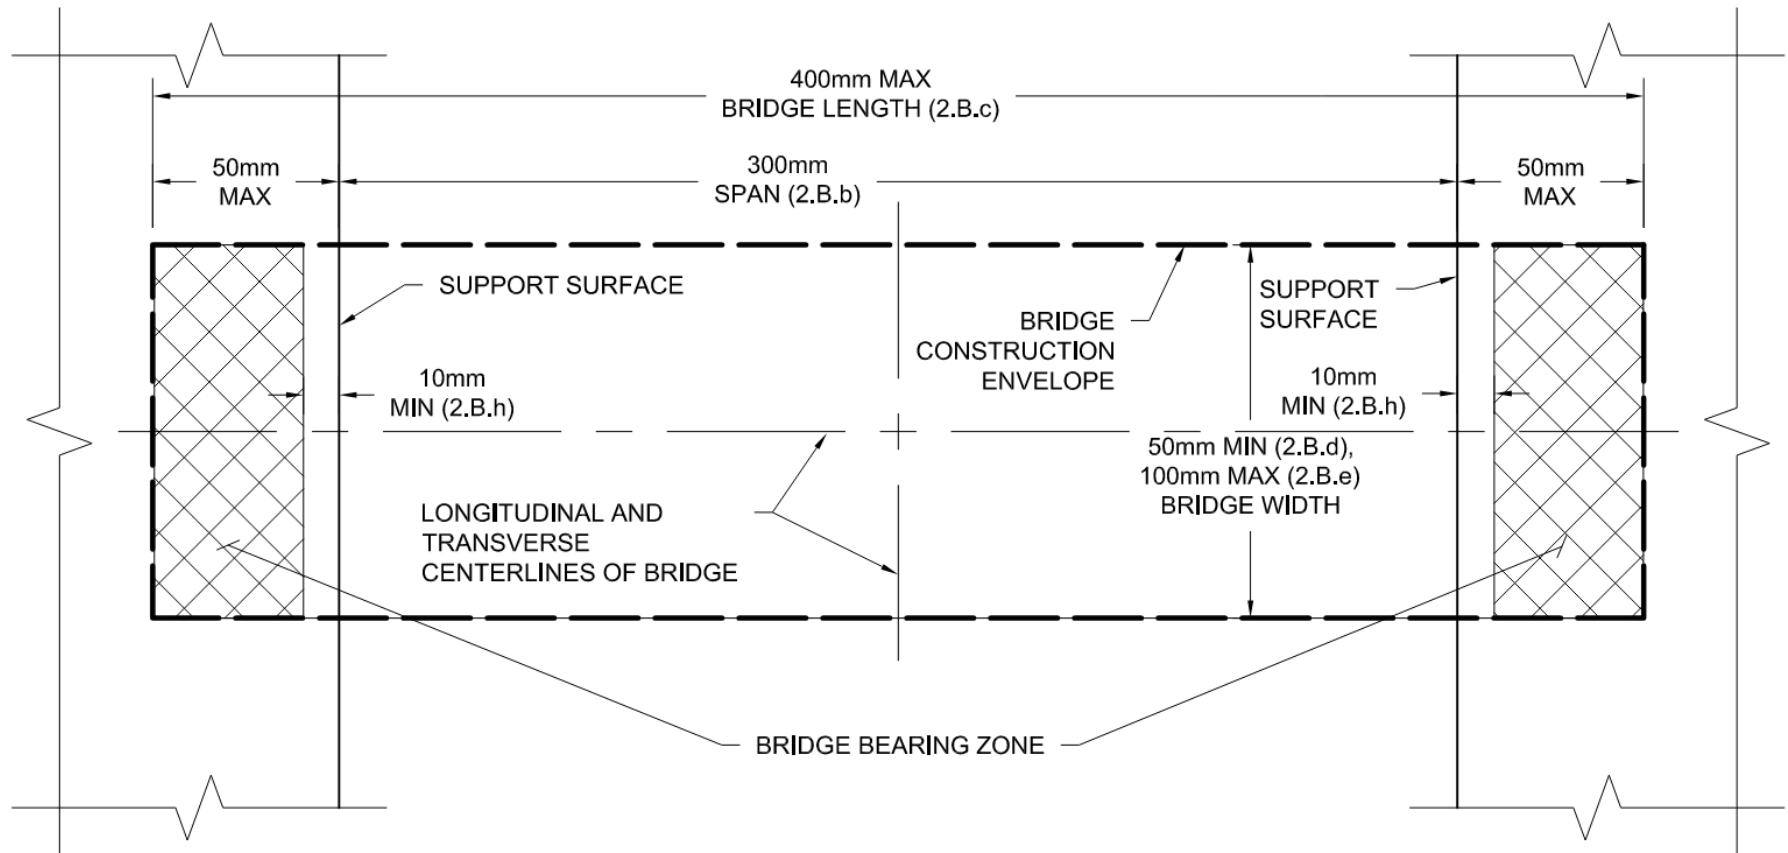
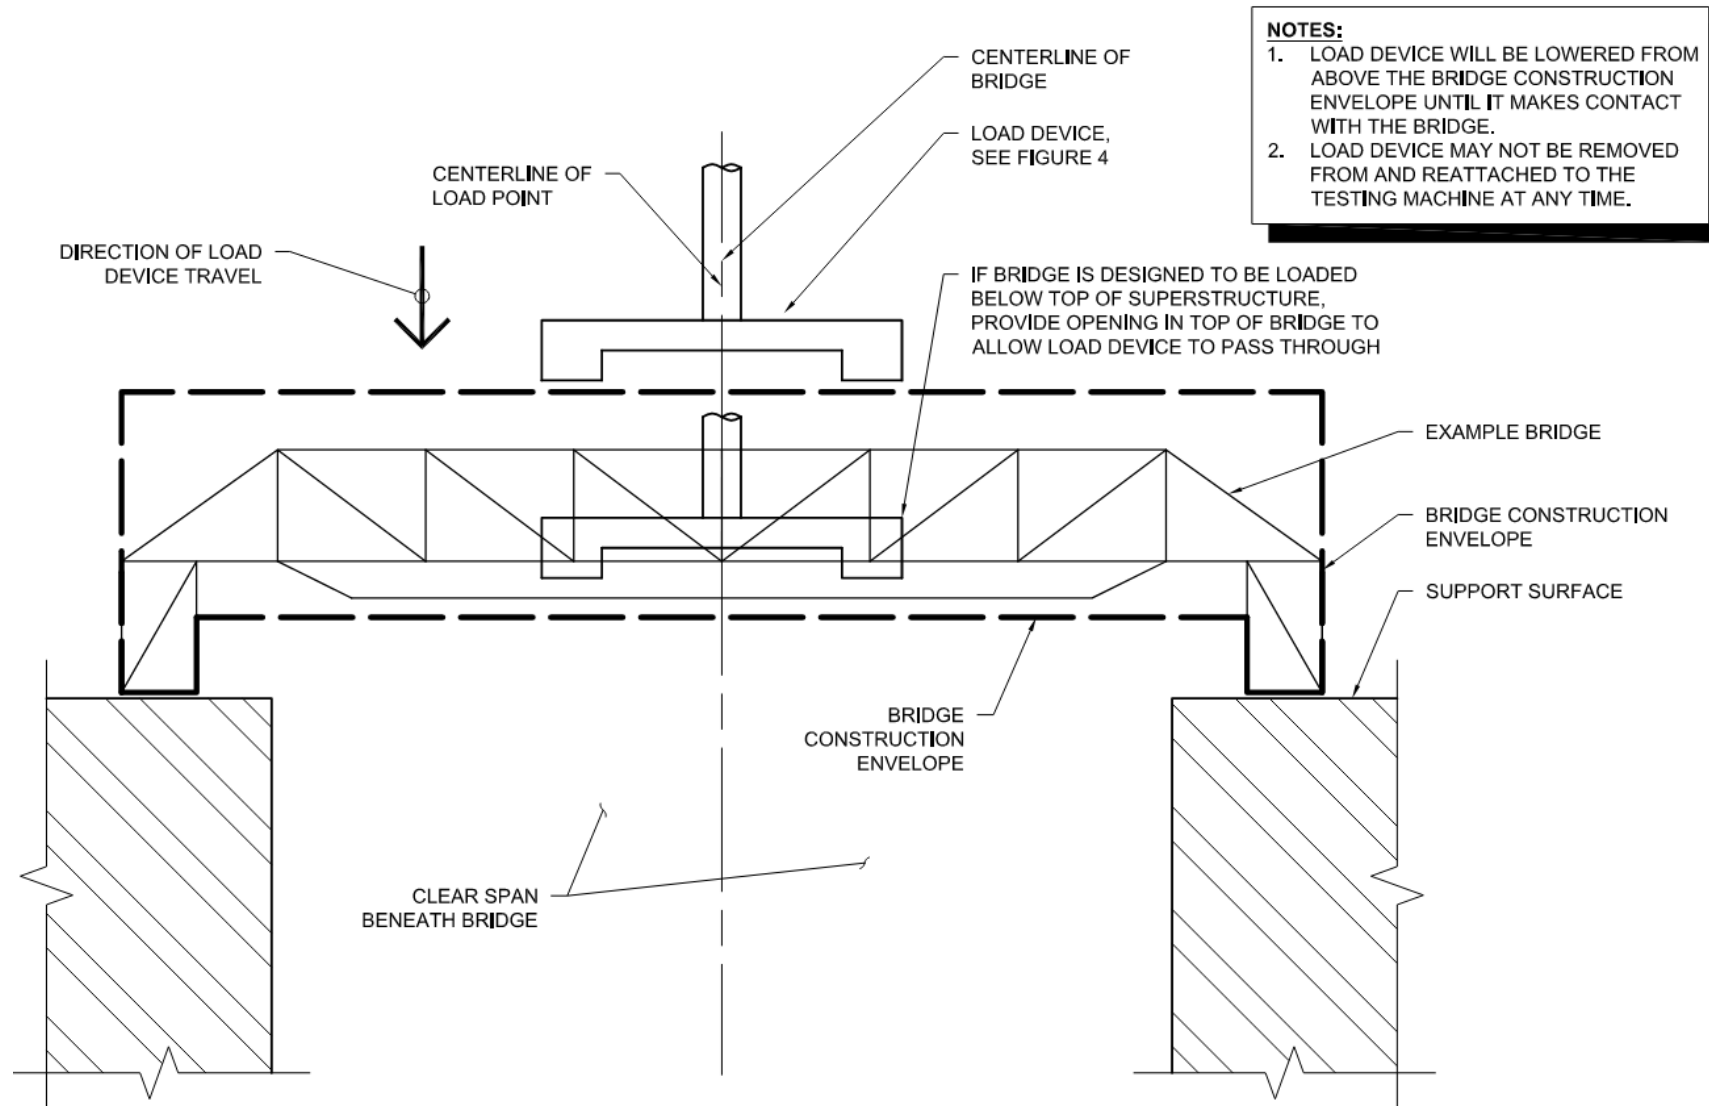

FIGURE 3 LOAD DEVICE AND EXAMPLE BRIDGE (NOT TO SCALE)
FIGURE 4 LOADING DEVICE (NOT TO SCALE)
- A. The load will be applied downward (from above) by means of a load device. The load will be applied to the longitudinal center axis of the bridge at the centerline of the span. The load plate is illustrated in Figure 3 and Figure 4.